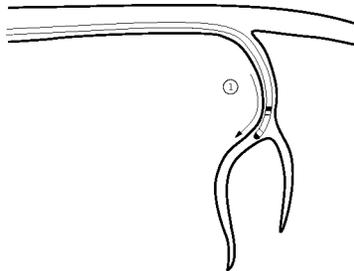

Figure 15. The lead being advanced through the major branch vein.
1. Advance the lead through the major branch vein by adjusting the position of the stylet as necessary (Figure 15).